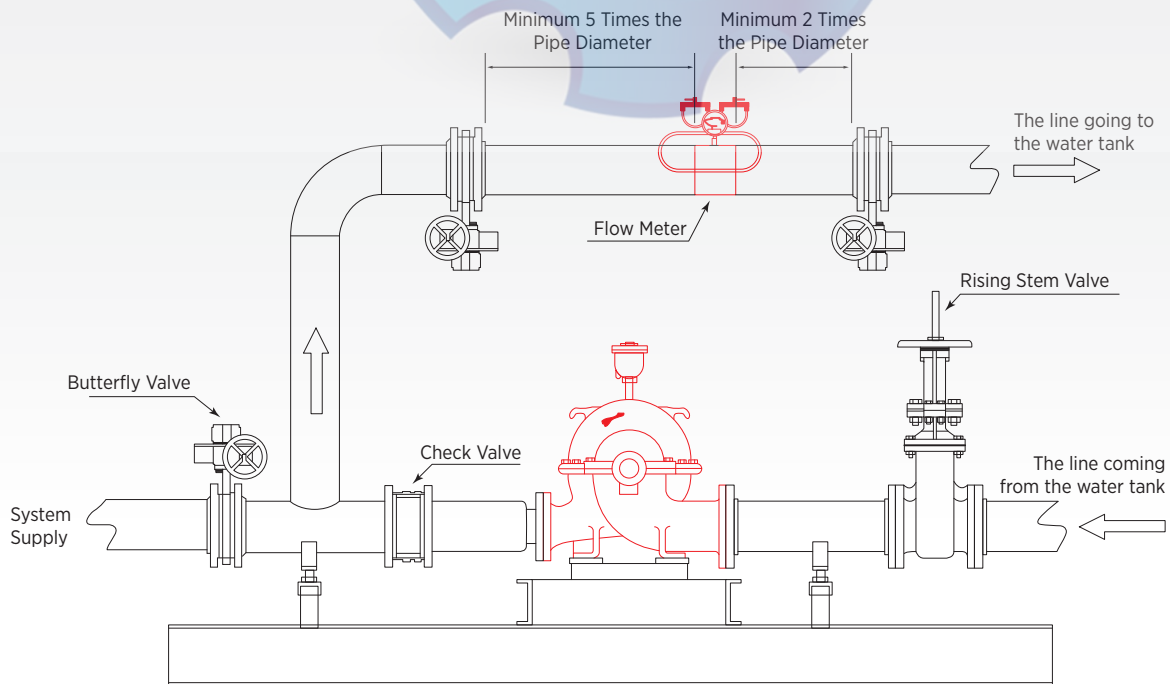

Figure 4: Flow Meter Connection Diagram
- Flow meter diameter should be selected based on "Table 1" in line with the pump flow rate. Moreover, unlike in EN 1284 which specifies a connection to the delivery collector, the NFPA 20 standard requires the flow meter to be connected between the butterfly valve and check valve on the pump delivery line, as shown on Figure 4.